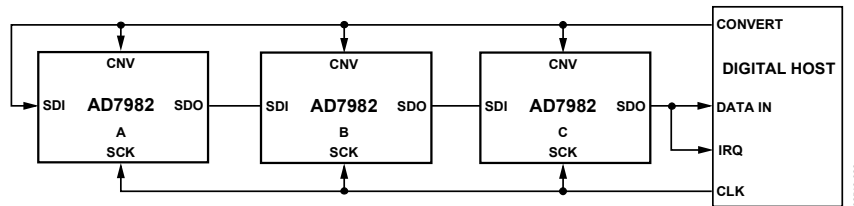
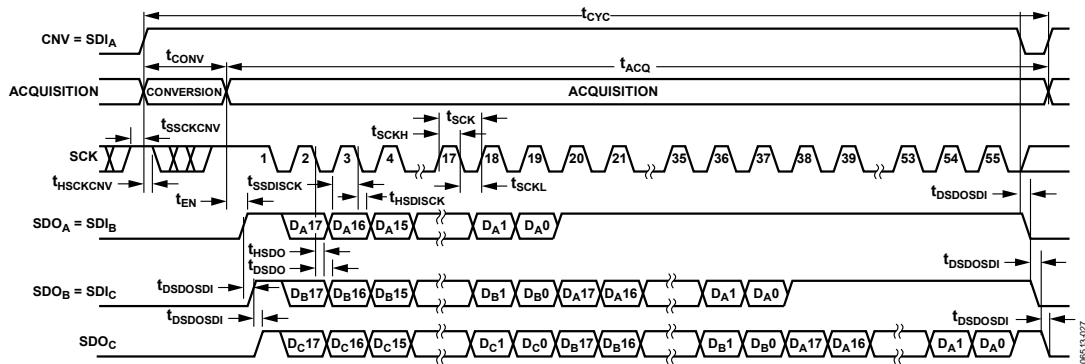

Figure 39. Chain Mode with Busy Indicator Connection Diagram
Figure 40. Chain Mode with Busy Indicator Serial Interface Timing
- In the chain mode if SCK is high during the CNV rising edge (see Figure 40).
Figure 39 shows a connection diagram example using three AD7982 devices, and Figure 40 shows the corresponding timing.
In this mode, CNV is held high during the conversion phase and the subsequent data readback. When all ADCs in the chain have completed their conversions, the SDO pin of the ADC closest to the digital host (see the AD7982 ADC labeled C in Figure 39) is driven high. The transition of driving the SDO pin of the ADC to high can be used as a busy indicator to trigger the data readback controlled by the digital host. The AD7982 then enters the acquisition phase and powers down. The data bits stored in the internal shift register are clocked out, MSB first, by subsequent SCK falling edges. For each ADC, SDI feeds the input of the internal shift register and is clocked by the SCK falling edge. Each ADC in the chain outputs its data MSB first, and  $18 \times N + 1$  clocks are required to read back the N ADCs. Although the rising edge can capture the data, a digital host using the SCK falling edge allows a faster reading rate and consequently more AD7982 devices in the chain, provided the digital host has an acceptable hold time.